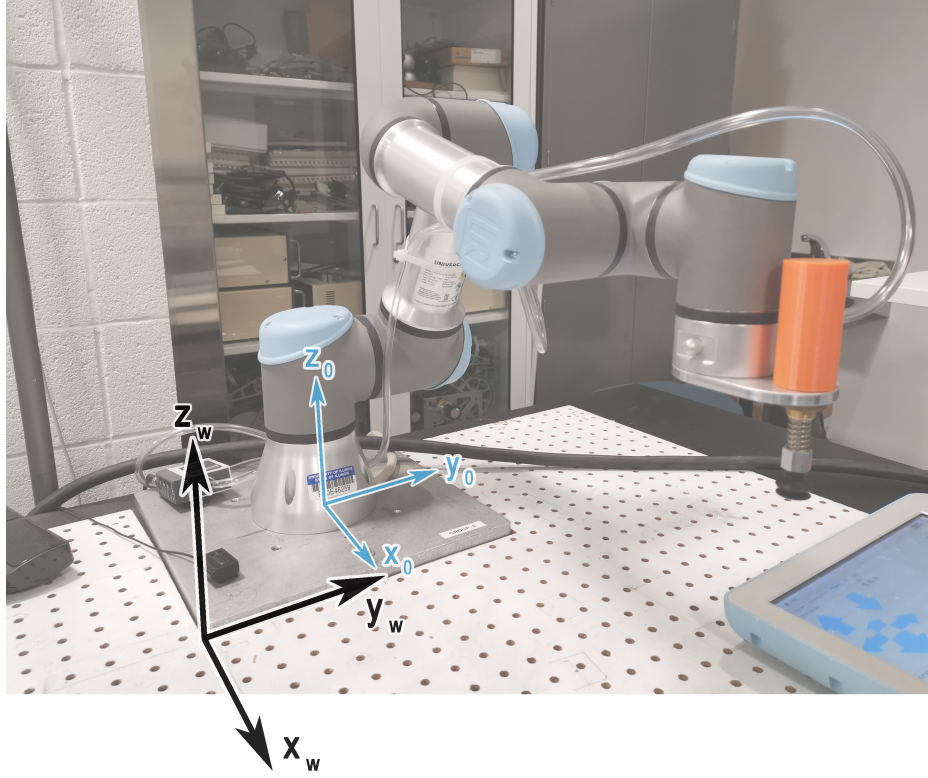

Figure 4.3: Correct location and orientation of the world frame.
1. Establish the world coordinate frame (frame w) centered at the corner of the UR3’s base shown in Figure 4.3. The x_w and y_w plane should correspond to the surface of the table, with the x_w axis parallel to the sides of the table and the y_w axis parallel to the front and back edges of the table. Axis z_w should be normal to the table surface, with up being the positive z_w direction and the surface of the table corresponding to $z_w = 0$.